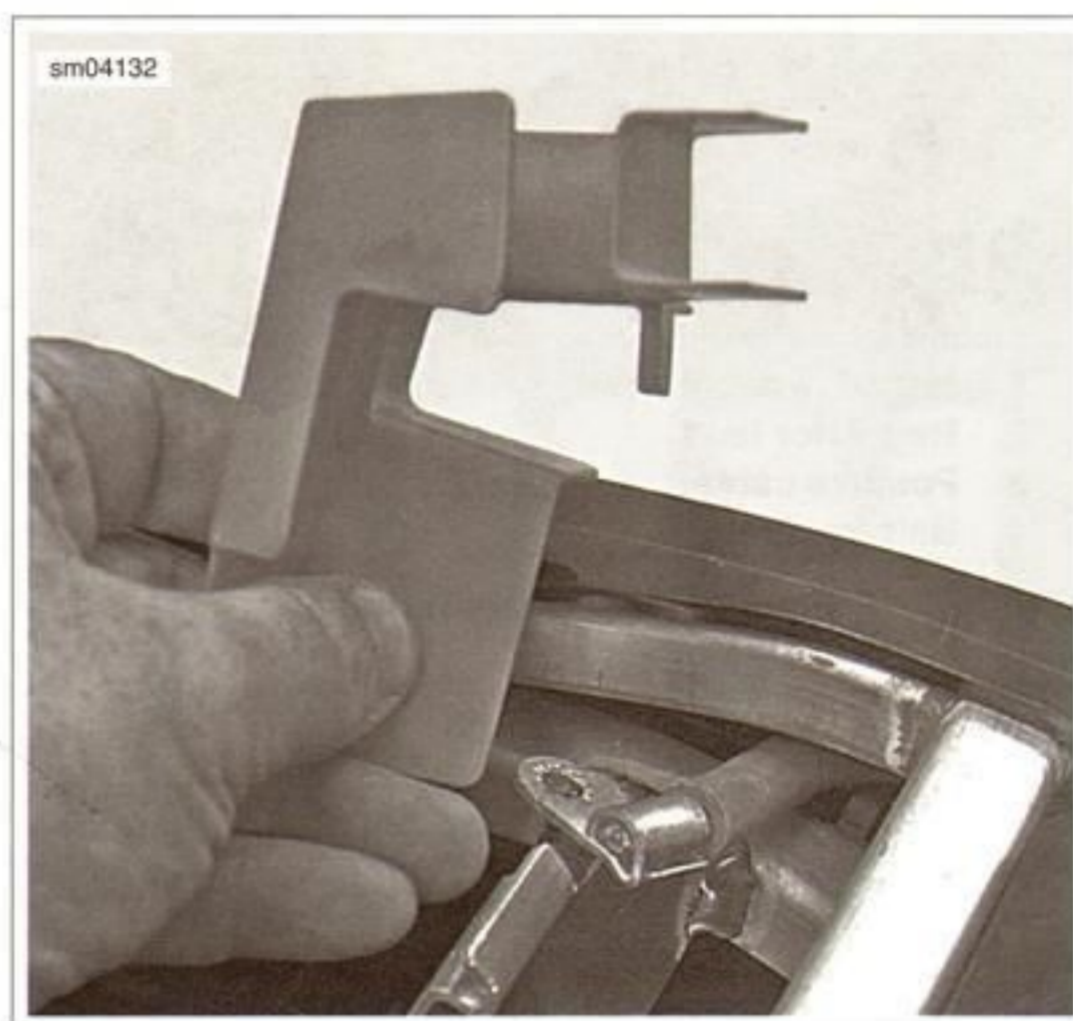

Figure 1-51. Positive Terminal Shield
1. See Figure 1-51. If removed, orient the positive terminal shield to the subframe rails and snap into place.